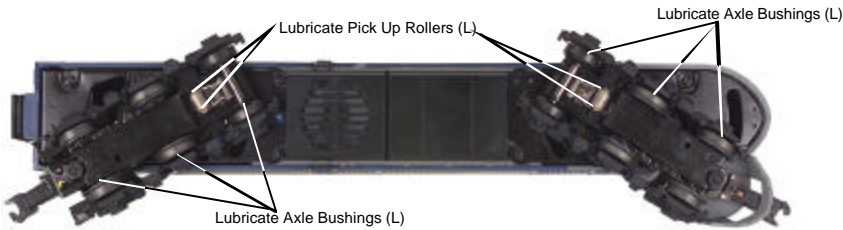

Figure 8. Lubrication Points on the Locomotive
1. Although the engine was lubricated at the factory, it is important that you lubricate the chassis before operation. Lightly grease the outside idler and drive gears marked “G” in Fig. 9 on pg. 14 with lithium-based grease to prevent them from squeaking and to prevent premature wear. Use light household oil and follow the lubrication points marked “L” in Fig. 8 on pg. 13. Do not over-oil. Use only a drop or two on each pivot point.
You should regularly lubricate the engine to prevent it from squeaking. Use light household oil and follow the lubrication points marked “L” in Fig. 8. Do not over-oil. Use only a drop or two on each pivot point.